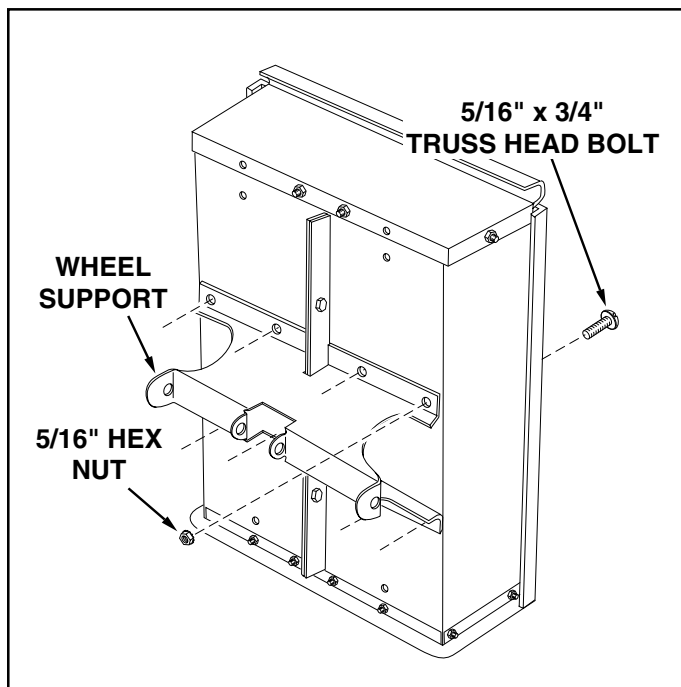

FIGURE 6
10. Assemble the wheel support to the cart using eight 5/16" x 3/4" truss head bolts and 5/16" hex nuts as shown in figure 6. Heads of bolts go to the inside of cart bed. **Tighten**.